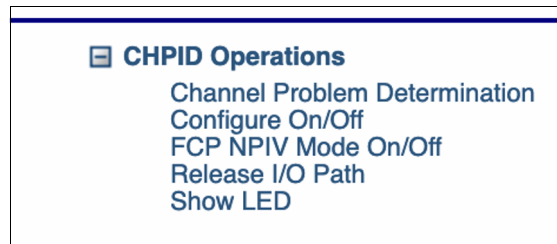

Figure 22 Select Configure On/Off
2. Select the **CHPID Operations** menu in the bottom center pane and select **Configure On/Off** (Figure 22).